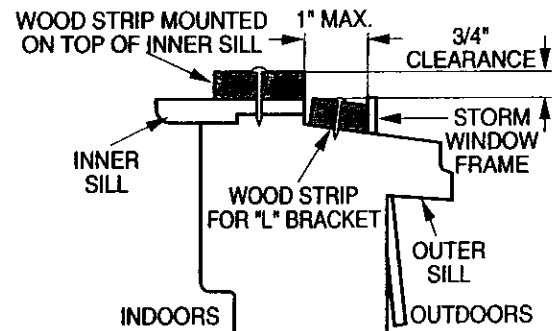

Figure 80
- If storm window presents interference, fasten a 2" wide wood strip to inner window sill across the full width of the sill. Wood strip should be thick enough to raise the height of the window sill so that the unit can be installed without interference by the storm window frame. See Figure 80. Top of wood strip should be approximately 3/4" higher than storm window frame or wood strip (OUTDOORS) to help unit condensation to drain properly to the outside.
- Install a second wood strip (approximately 6" long 1" wide and same thickness as first strip) in the center of the outer sill flush against the back of the inner sill. This will raise the L bracket as shown in Figure 80.